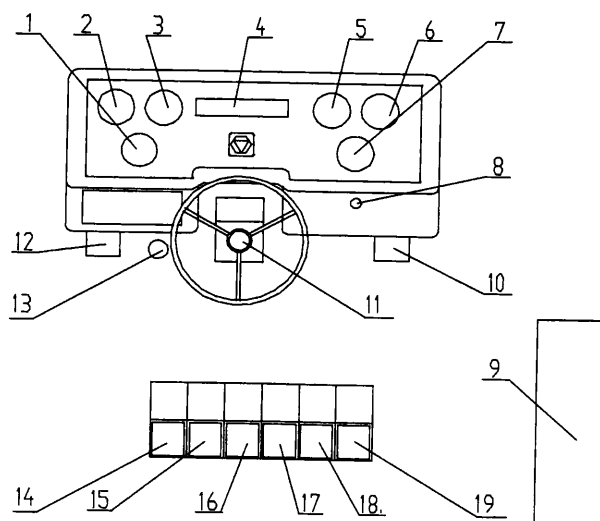

Fig 2-1 Operation mechanism and apparatus
- ### 1、Operation mechanism and apparatus (Fig. 2-1)